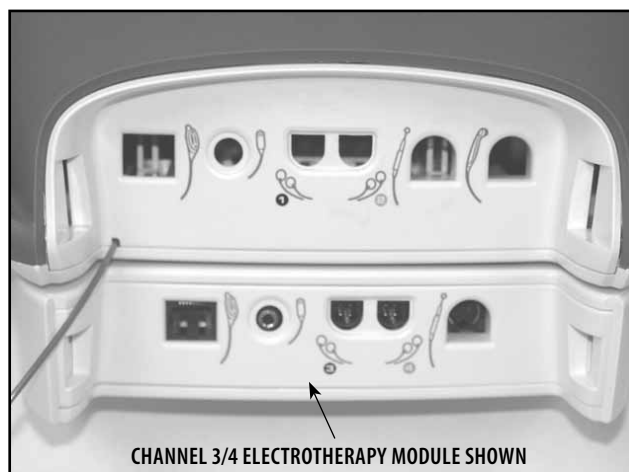

FIGURE 6.10
13. Install all cables, Lead Wires, etc. to the Therapy System and Module where applicable. Refer to page 14 for Symbol Definitions See Figure 6.10.